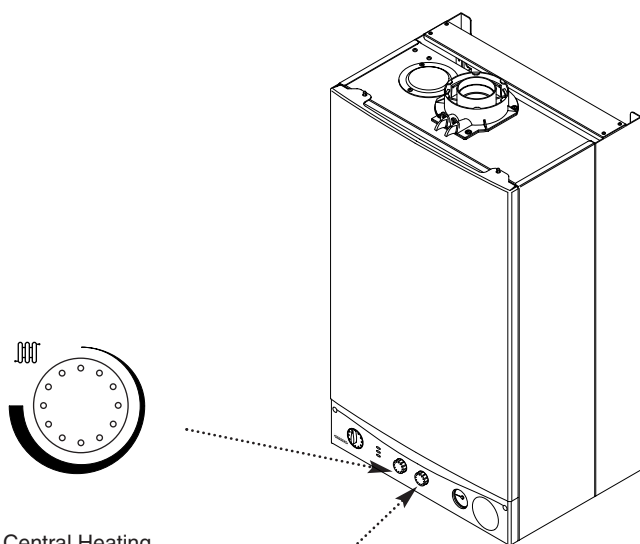

Fig. 8
2. Turn the control knob clockwise to increase the temperature (Fig. 8).